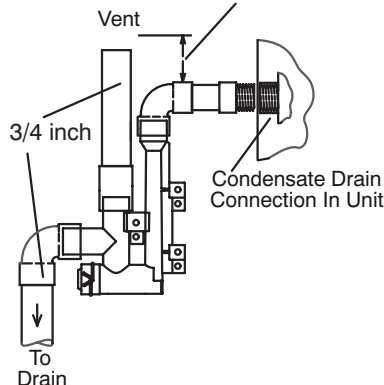

FIGURE 50
This unit is designed for either right- or left-side exit of condensate piping in upflow applications. In horizontal applications, the condensate trap must extend below the unit. An 8" service clearance is required for the condensate trap. Refer to FIGURE 42 for condensate trap locations. FIGURE 50 shows trap assembly
- 3 - Install the cap over the clean out opening at the base of the trap. Secure with clamp. See FIGURE 50.
- 4 - Install drain trap using appropriate PVC fittings, glue all joints. Glue the provided drain trap as shown in FIGURE 50. Route the condensate line to an open drain. Condensate line must maintain a 1/4" downward slope from the furnace to the drain.